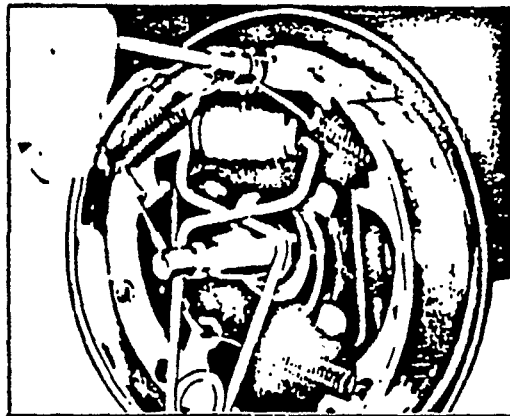

Fig. 19
6. Remove the secondary shoe to anchor spring with a refracting spring tool. Using the same tool, remove the primary shoe to anchor spring and unhook the cable anchor. (fig. 19)